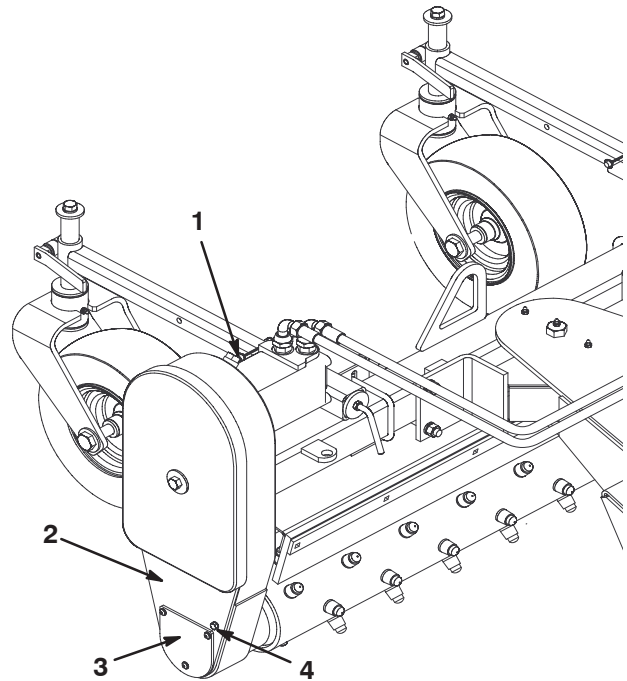

Figure 5
4. Remove the fill hole plug on top of the chain case (Fig. 5).
6. Remove the oil drain cover (Fig. 5).
8. Pour oil into the fill hole slowly until oil runs out the level hole (Fig. 5).
10. Install the fill hole plug (Fig. 5).